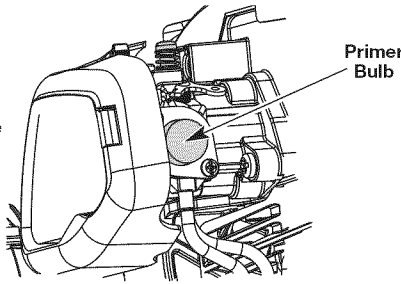

Fig. 7
3. Fully press and release the primer bulb 10 times, slowly. Some amount of fuel should be visible in the primer bulb and fuel lines (Fig. 7). If fuel can not be seen in the bulb, press and release the bulb as many times as it takes until fuel can be seen in it.